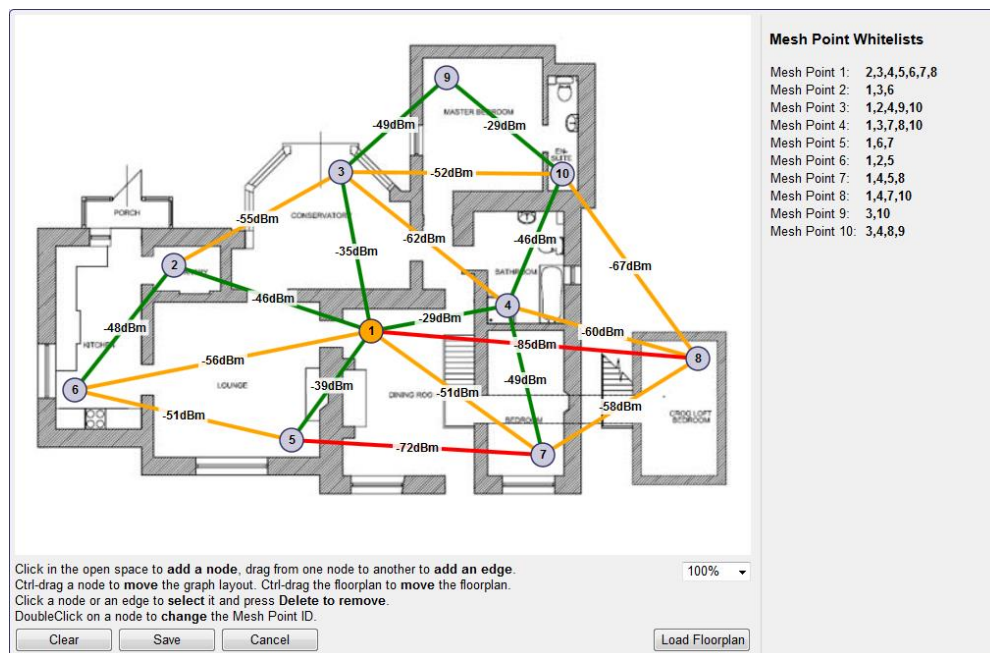
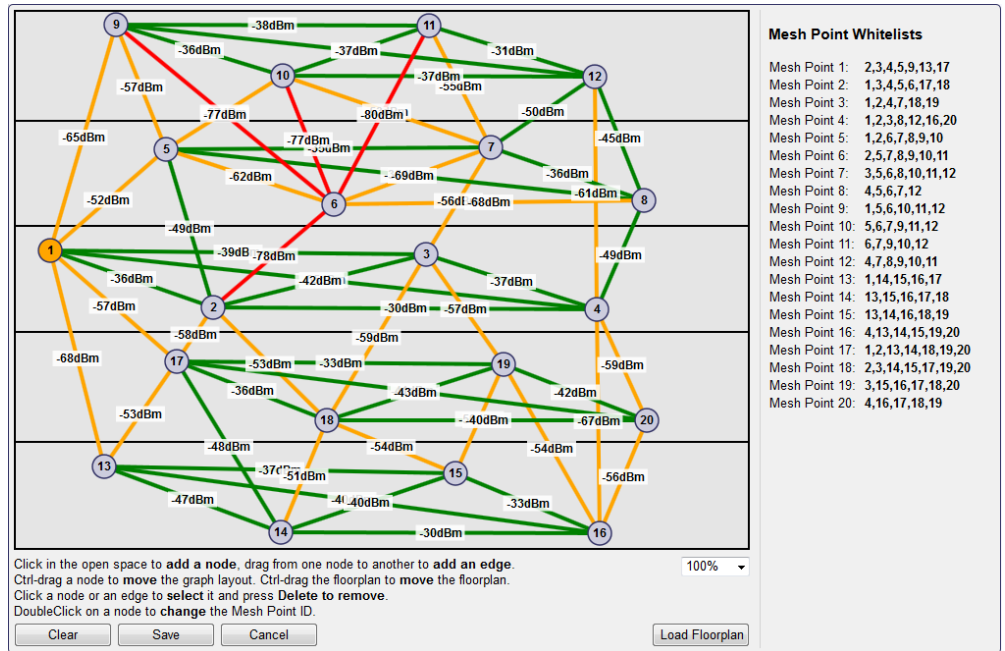

Figure 56: Mesh floorplan and online link monitor.
Figure 57: Mesh floorplan from side view and online monitor
**Mesh Graph Editor.** This is a visual editor to assist a simple configuration of whitelists in the Mesh network as shown in Figure 56 and Figure 57. Depending on the configuration of Mesh points and connections between them in the Mesh graph, the resulting whitelist for this Mesh network graph is displayed. When changing the Mesh graph this list is updated. The following operations are available:
By using a floorplan in the Mesh graph the local layout of the building can be considered when configuring the Mesh network. Figure 56 shows the Mesh network visualization using a floorplan from the top view of the building. In contrast Figure 57 shows an overview plan of a building with five floors from the side view. If Mesh network visualization over UDP has been activated, the current signal strength between the Mesh points is added to the view. The connections are colored depending on the signal strength. Green stands for a good connection over  $-50$  dBm, orange stands for a medium connection of about  $-50$  dBm to  $-70$  dBm and red stands for a weak connection under  $-70$  dBm. By looking at the color-coded connection it is fairly easy to identify weak connections and go forward to troubleshoot weak spots in the configuration.